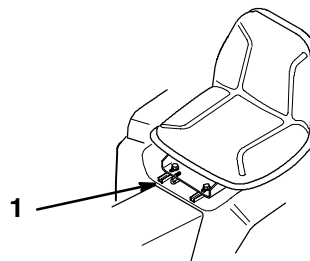

Figure 19
1. To adjust, move the lever sideways to unlock seat (Fig. 19).